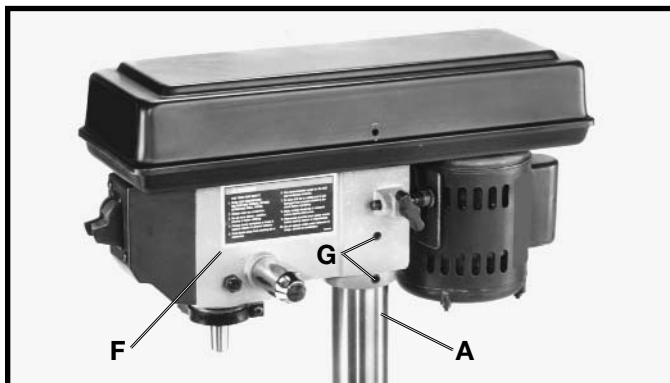
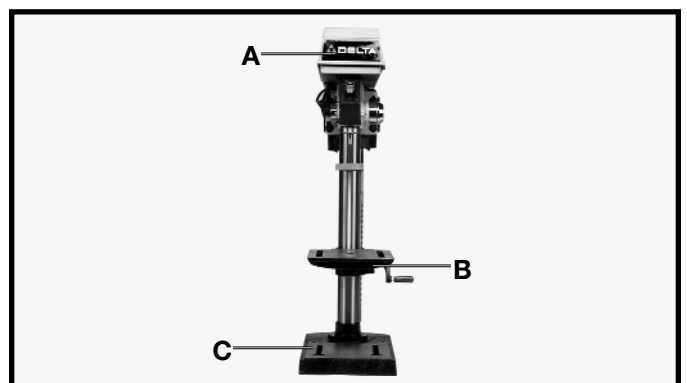

Fig. 7
Fig. 7A
4. Place the drill press head (F) Fig. 7, onto the column (A) as far as it will go. Align head (A) Fig. 7A, to table (B), and base (C). Tighten the two head locking screws (G) Fig. 7 with wrench supplied.